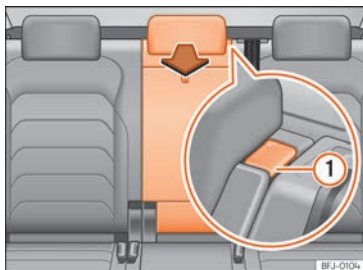

Fig. 165 On the rear seat backrest: opening the tailboard for long objects.
- Press the unlocking button »» Fig. 165 ① and fold the tailboard forward »» ⚠.